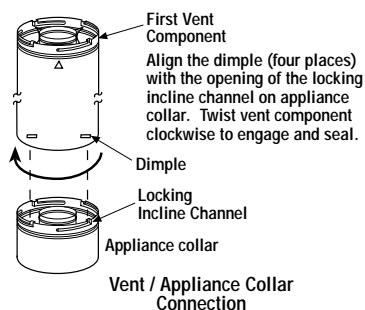

Figure 17
B. Attach vent components to appliance - Secure Vent SV4.5 direct vent system components are unitized concentric pipe components featuring positive twist lock connections (see *Figure 17*).
To attach a vent component to the appliance collar, align the dimpled end over the collar, adjusting the radial alignment until the four locking dimples are aligned with the inlet of the four inclined channels on the collar (*refer to Figure 17*). Push the vent component against the collar until it fully engages, then twist the component clockwise, running the dimples down and along the incline channels until they seat at the end of the channels.
Secure Vent SV4.5 direct vent system components are unitized concentric pipe components featuring positive twist lock connection, (refer to **Figure 17 on page 13**). All of the appliances covered in this document are fitted with collars having locking inclined channels. The dimpled end of the vent components fit over the appliance collar to create the positive twist lock connection.
D. Attach vent components to appliance - To attach a vent component to the appliance collar, align the dimpled end over the collar, adjusting the radial alignment until the four locking dimples are aligned with the inlets of the four incline channels on the collar (refer to **Figure 17 on page 13**).